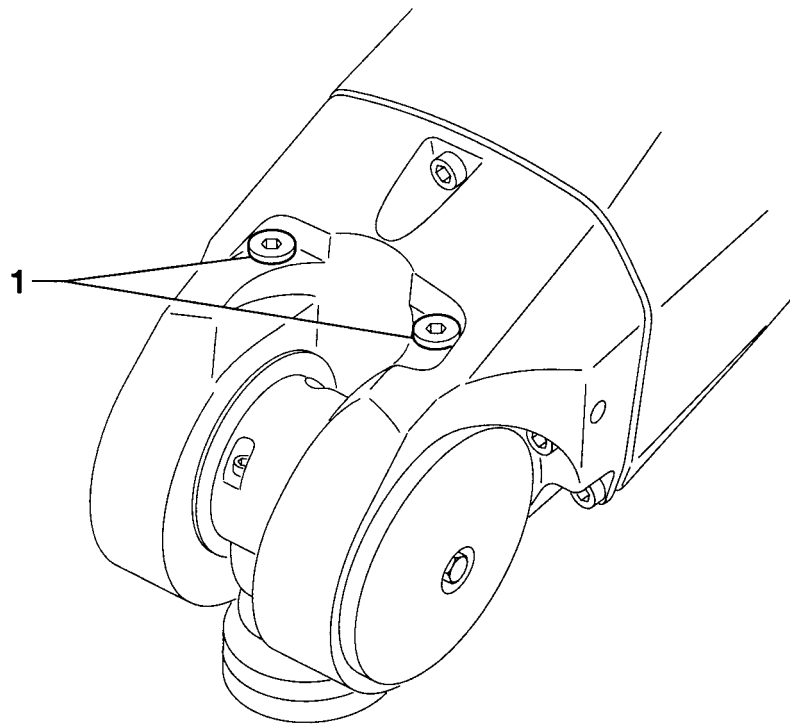

Figure 7.4
7.2.5. JOINTS 5 AND 6 (figure 7.4)